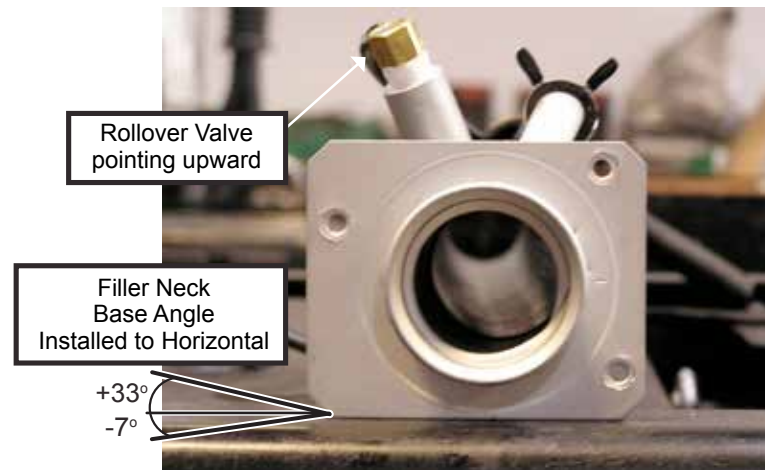

Figure 11.35.2
The fuel filler neck (5) must be installed with the proper orientation on the body. The neck should be installed with the roll-over valve pointing upward, with the bottom edge of the neck oriented parallel to the ground, plus 33 to minus 7 degrees. See **Figure 11.35.2** for the proper orientation.